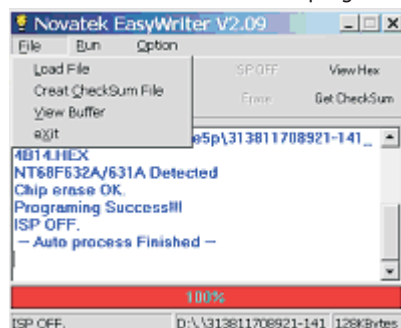

Fig. 10
4. Press the file --> exit to end program , as shown in Fig. 10.